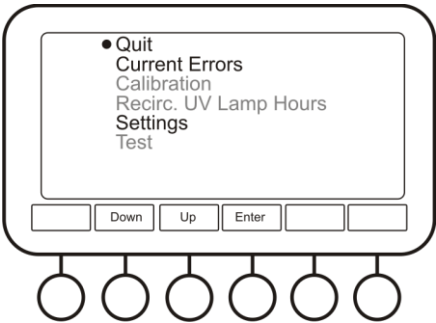

Figure 6. Service menu
5.9.3. **Service** (fig. 6). This submenu has available options **Current Errors** and **Settings**.